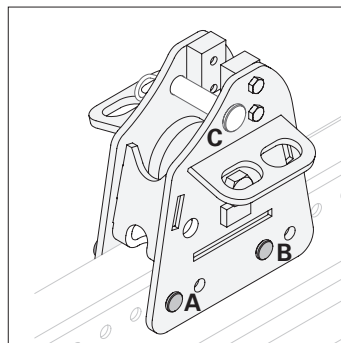

Fig. A10.02a Fixed bearing – with bolt C
1. Place the bearer (36) on the ledger (28).
2. Fit one bolt (36.1) and one cotter pin (36.2) into both A + B – 2x. (Fig. A10.02a)